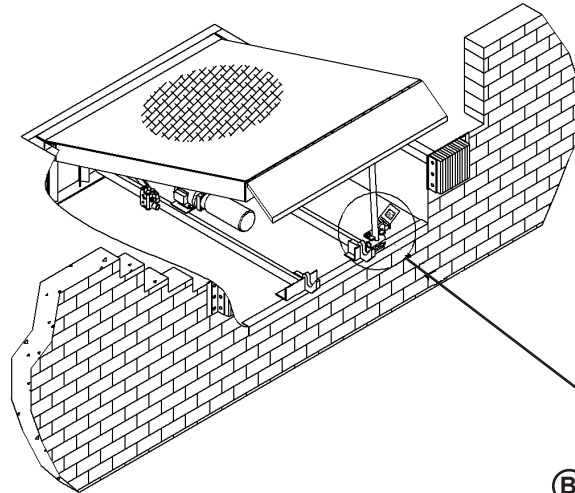

Figure 25
Whenever maintenance is to be performed under the dock leveler platform, support the platform with maintenance prop (C). Position the maintenance prop behind front header plate (D) while staying clear of the lip. The lip will fold down after the platform has rested on the maintenance prop. Lock the maintenance prop in the service (upright) position using an OSHA approved lockout device* (B) and tag out device* (A). See Figures 25 and 26.